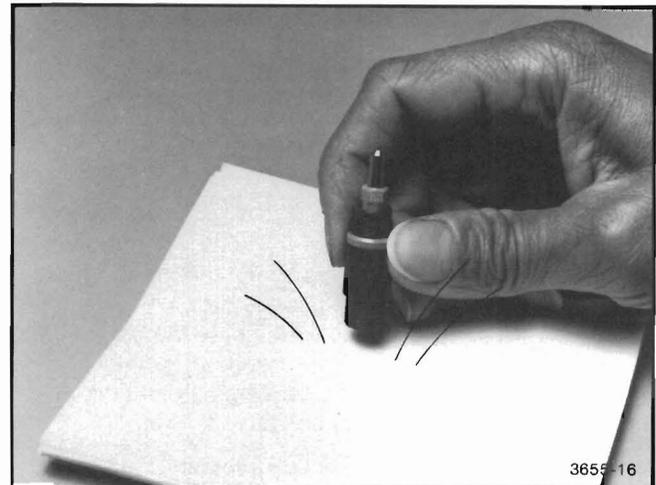

Figure 4-15. Removing Excess Ink From the Wet-Ink Pen.
3. **Tap** the rear portion of the pen body lightly on absorbent paper to remove excess ink. See Figure 4-15.